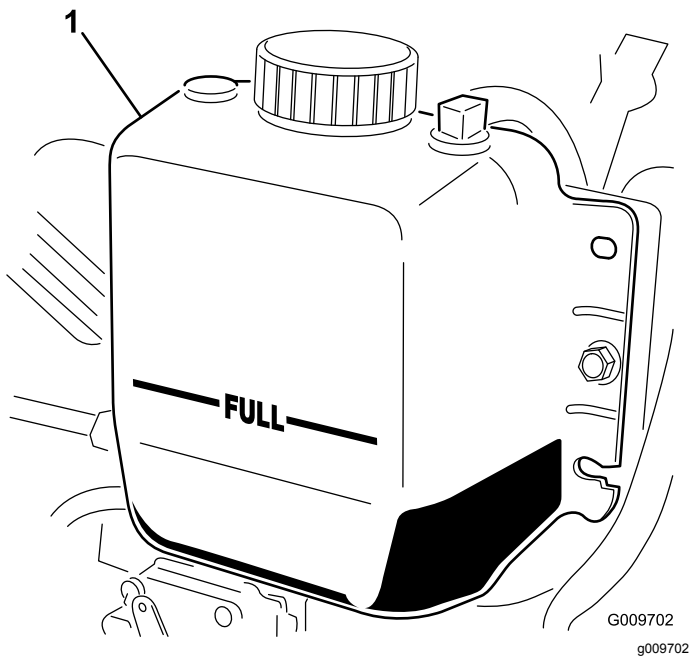

Figure 19
2. Check the coolant level in the radiator. The radiator should be filled to the top of the filler neck and the expansion tank filled to the Full mark (Figure 19).